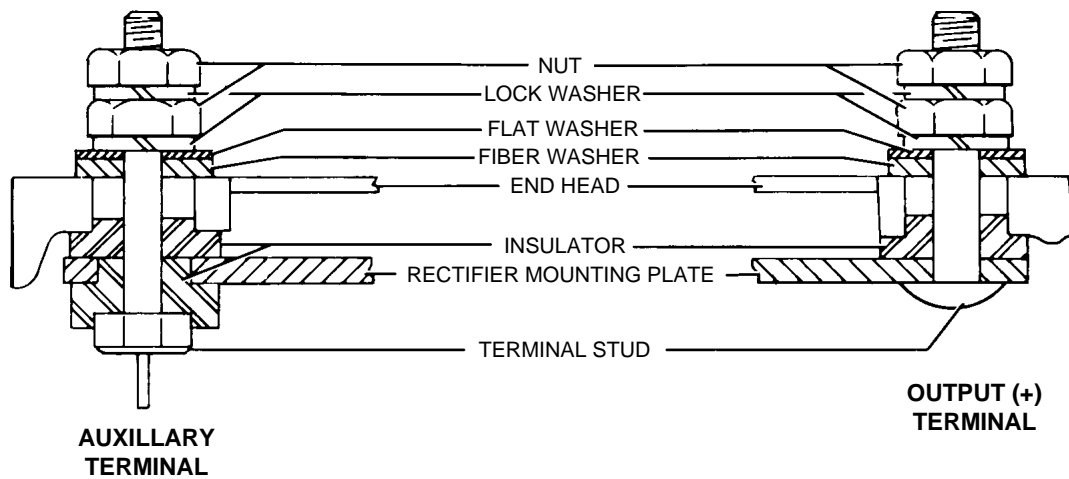

Figure 11-11. Terminal Assembly
c. Assemble rectifier mounting plate studs and insulators. Verify they are in correct order. (Refer to Figure 11-11.)